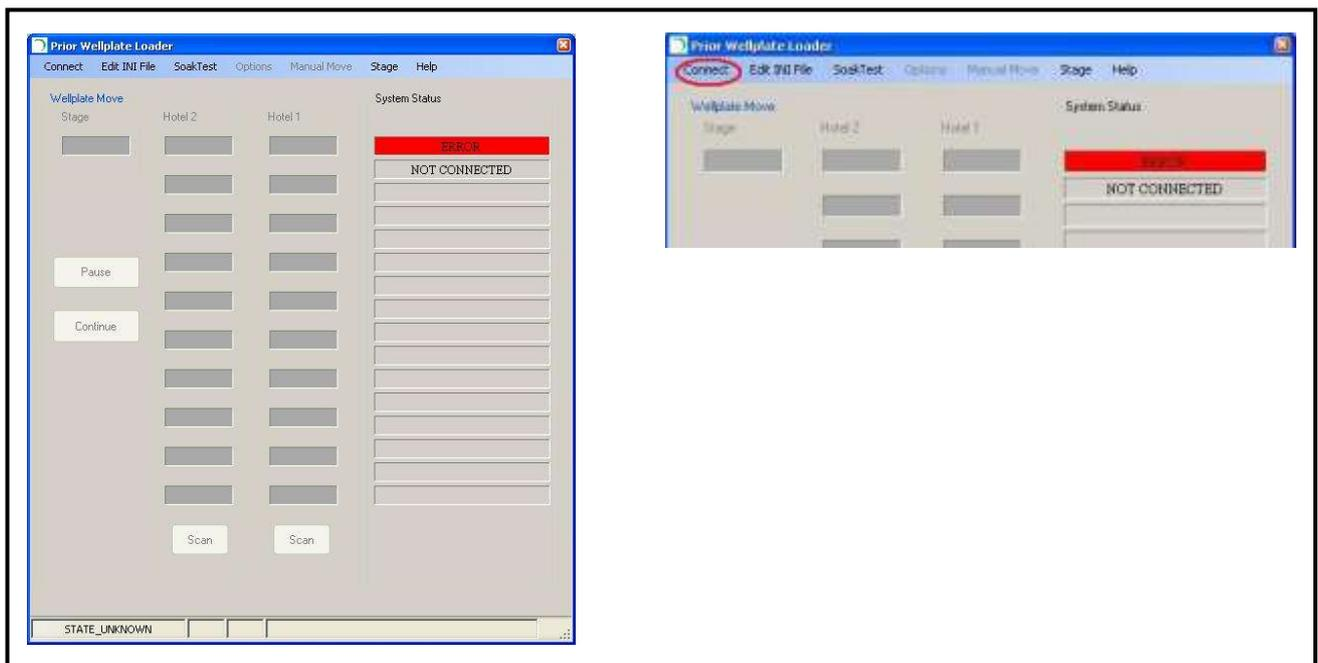

Fig: 19
2. Open Prior Well Plate Loader software. (Fig 19)